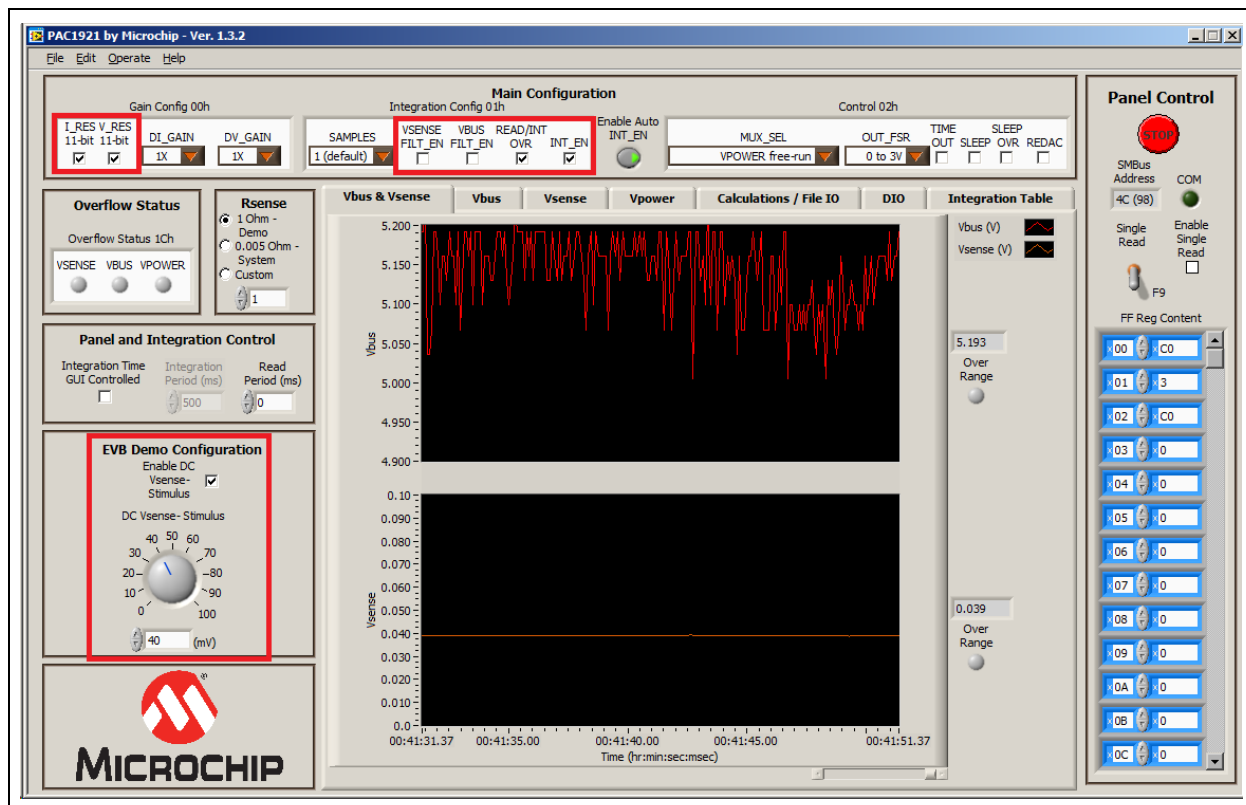

FIGURE 4-22: Free-Run Integration, Shortest Period.
5. Observe the plots on the **Vbus & Vsense** tab, as shown in Figure 4-22, adjusting the Y-axis values as desired. These settings result in the shortest integration period.